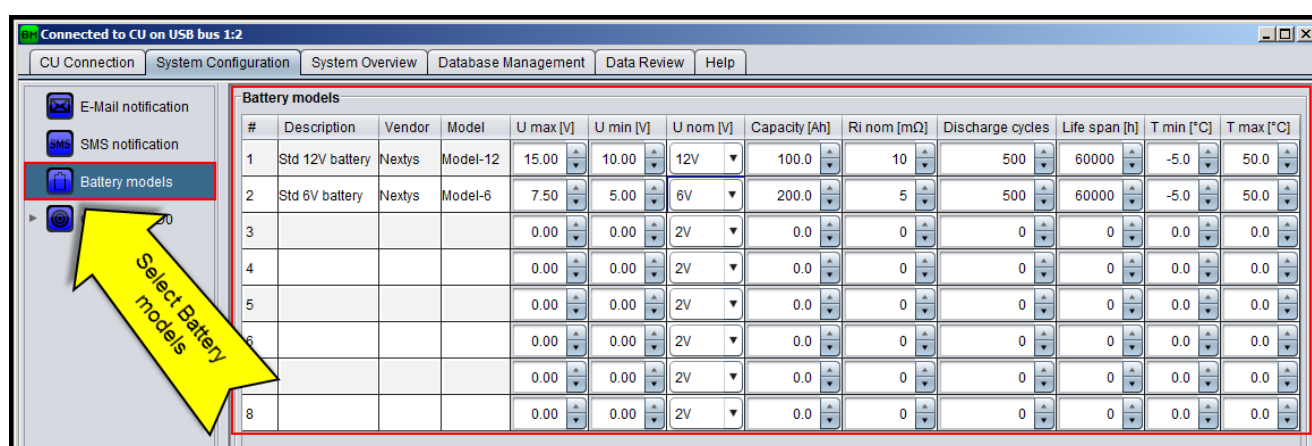

Figure 31: Battery's models configuration
10. Select Battery models as shown on Figure 31.
11. Up to 8 different battery models can be described for a system, one for each row in the table (see Figure 31). Fill in the following fields for every different battery model: